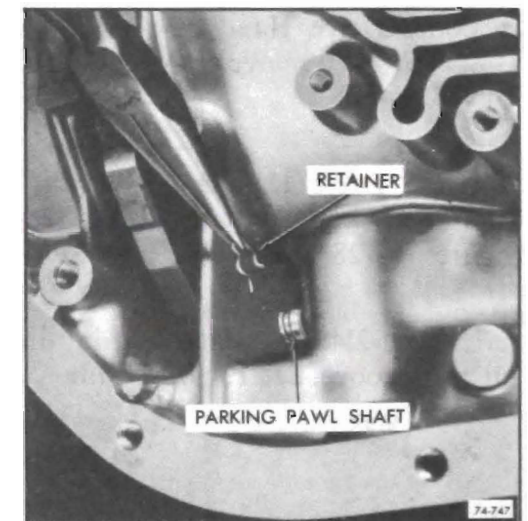

Figure 76-747
2. Install the parking pawl shaft retainer clip. See Figure 76-747.